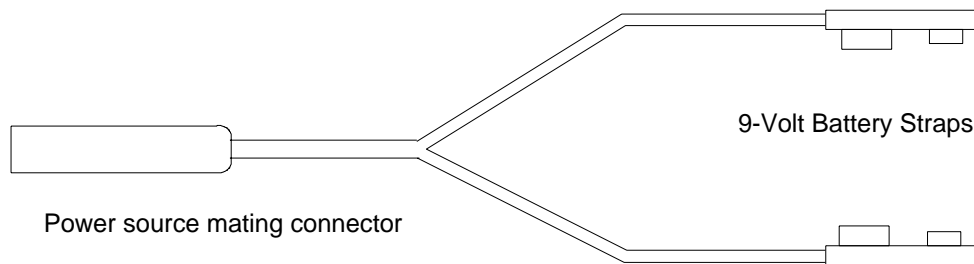

Figure 1 AC Power Supply Adapter Cable Assembly
- Procure a mating connector for the power source output plug, and solder the battery straps to the mating connector as shown in Figure 1.